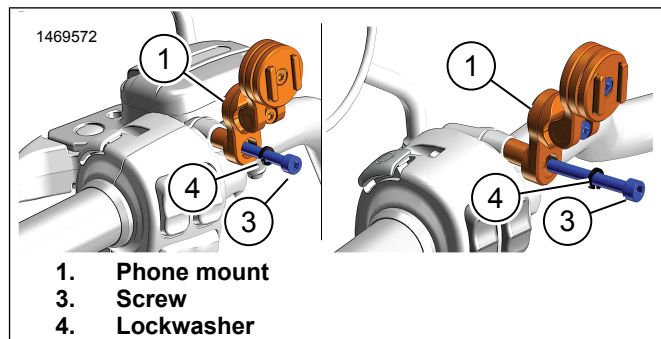

Figure 3. Phone Mount Install to Left Side Clutch/Mirror Mount
1. Prior to tightening phone mount bolt (3), adjust clocking to enable viewing without obstructing functions of the motorcycle.
2. **Touring, Trike, Softail, Dyna, Livewire Models:** See Figure 3. Install screw (3) and lockwasher (4) to left side clutch mount. Tighten.
3. **Sportster XL, Street XG Models:** See Figure 3. Install M6 screw (3) and lockwasher (4) to left side mirror mount. Tighten.